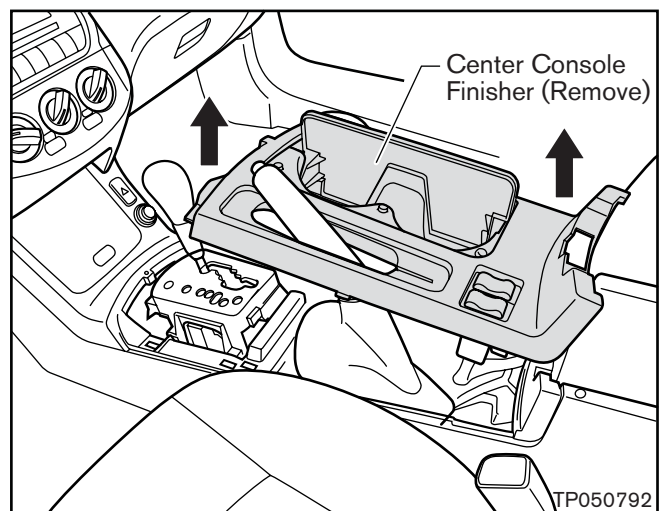

Figure A2
- b. Remove the center console finisher by carefully lifting UP to release the securing clips (see Figure A2).